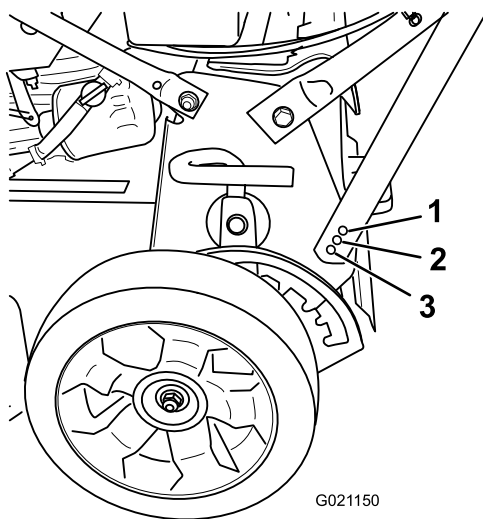

Figure 5
2. Remove the handle bolt and insert it in 1 of the 3 holes located at the bottom of the handle bracket (Figure 5).